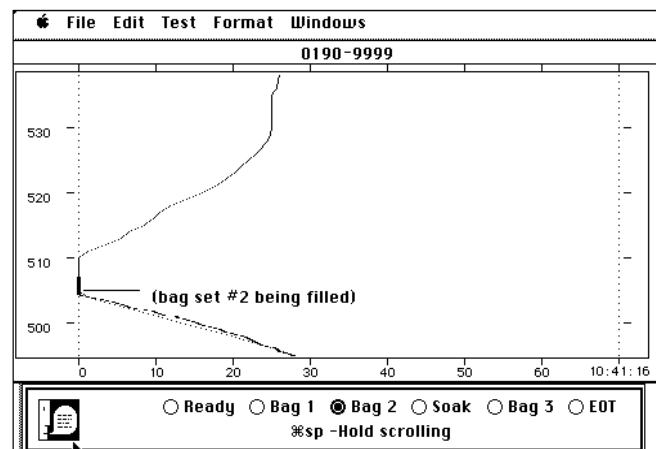

Figure 17
- 314 At the 505-second point of the UDDS, the VDA will automatically switch to the second set of sample bags. See Figure 17.